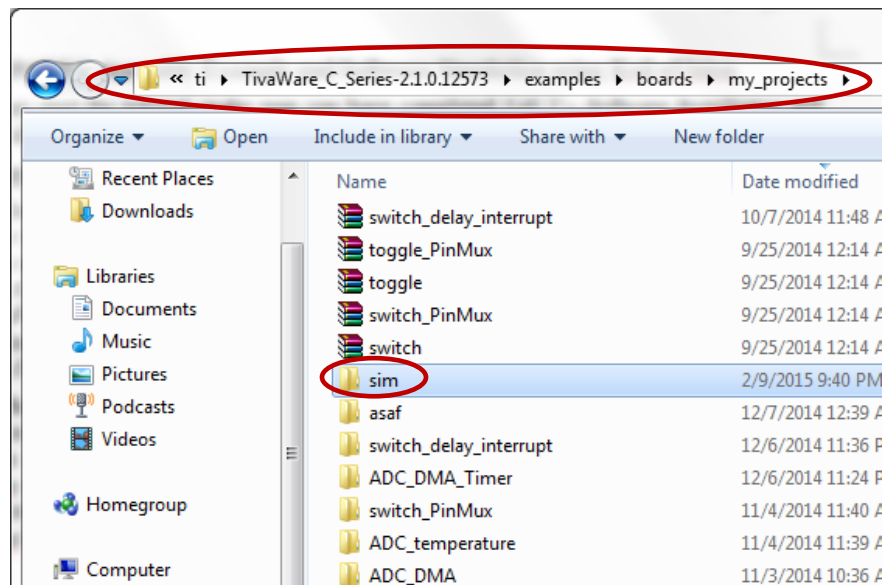

Figure 1
1. Download the project *sim.zip* from iLearn->Labs->Lab2->sim. This is a sample project that calculates the sum, difference, and absolute difference of two 32-bit signed numbers NUM1 and NUM2 and then stores the results in memory. It is assumed that you already install the TivaWare library in C:\ti\TivaWare_C_Series-2.1.0.12573. First create a new directory “my_projects” under C:\ti\TivaWare_C_Series-2.1.0.12573\examples\boards and then save and uncompress the sample project *sim.zip* under “C:\ti\TivaWare_C_Series-2.1.0.12573\examples\boards\my_projects” as shown in Figure 1.